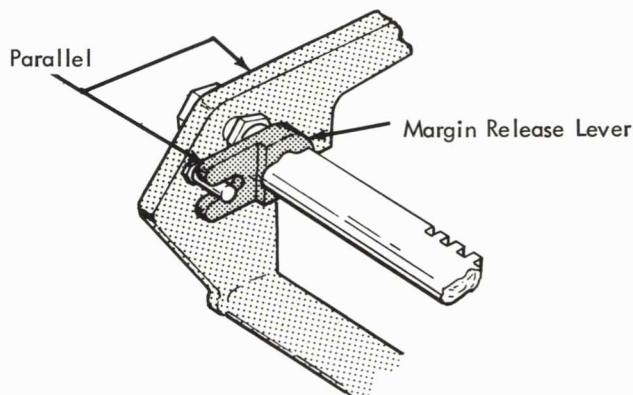

FIGURE 177. Margin Rack (Early)
- With all parts at rest, loosen the fluted screw in the margin release lever and rotate the margin rack (within the release lever) to a level position (Fig. 177). Then tighten the fluted screw.